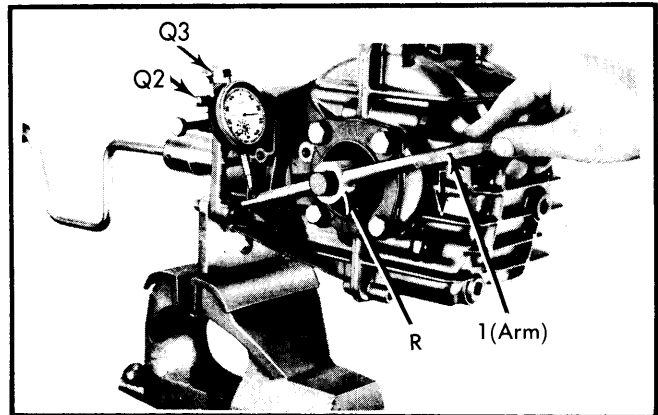

Fig. 17 Measuring Ring-to-Pinion Gear Backlash
15) Move assembly in vise to its normal upright position. Install backlash measuring tool R horizontally making sure that one of the radial grooves in ring gear face is in line with double quotation mark " " of device. Lock central screw and install support rod Q2 in front upper housing. Mount dial indicator using holder Q3 so that dial indicator feeler (foot) is resting between two marks found on flat side of tool R and so that feeler (foot) and tool R form a right angle. Turn pinion carefully clockwise to set dial indicator small hand to "5". Adjust dial indicator face to "0" while applying upward pressure on arm 1. See Fig. 17.